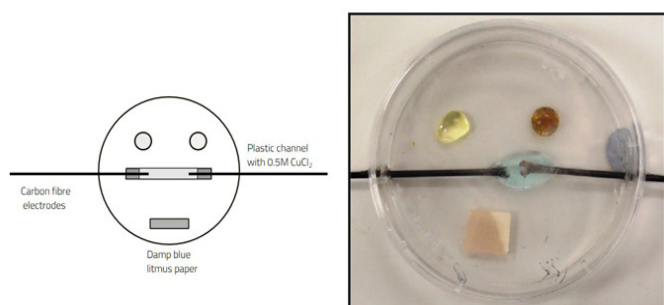

Figure 5: The microscale setup for the electrolysis of sodium chloride or copper(II) chloride in a Petri dish. Image courtesy of Bob Worley
placement reactions can be carried out in a similar way. The reagents can conveniently be applied using a small dropper or pipette, which allows various designs to be set up to illustrate different patterns or trends. The sheets can then easily be wiped clean. Another approach is to place droplets of reagents on Petri dishes (see Figure 5).
In terms of safety, the benefits of using smaller amounts of reagents are obvious. This is especially relevant with volatile chemicals, where the levels of toxic gases in the air will be much lower if students are only using droplet amounts. An excellent demonstration of this is the electrolysis of sodium chloride or copper(II) chloride, which produces toxic chlorine gas that can trigger breathing difficulties. Some employers wanted this activity removed even though it was specified in exam syllabuses. However, CLEAPSS was able to design equipment for carrying out this experiment on a smaller scale (Figure 5), and in this case just 5 to 6 cm³ of chlorine gas are produced.